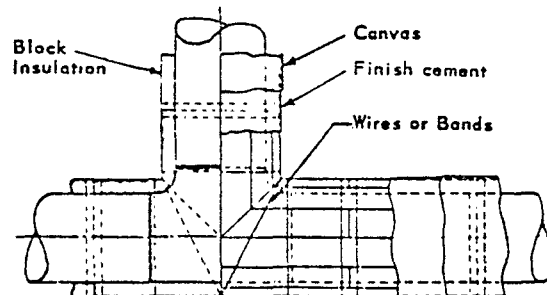

FIGURE 7
7.2 Welded fittings and valves three inches and larger shall be insulated with block or pipe insulation at least equal in thickness and in the same number of layers as adjacent pipe insulation. See Figures 7 and 8.